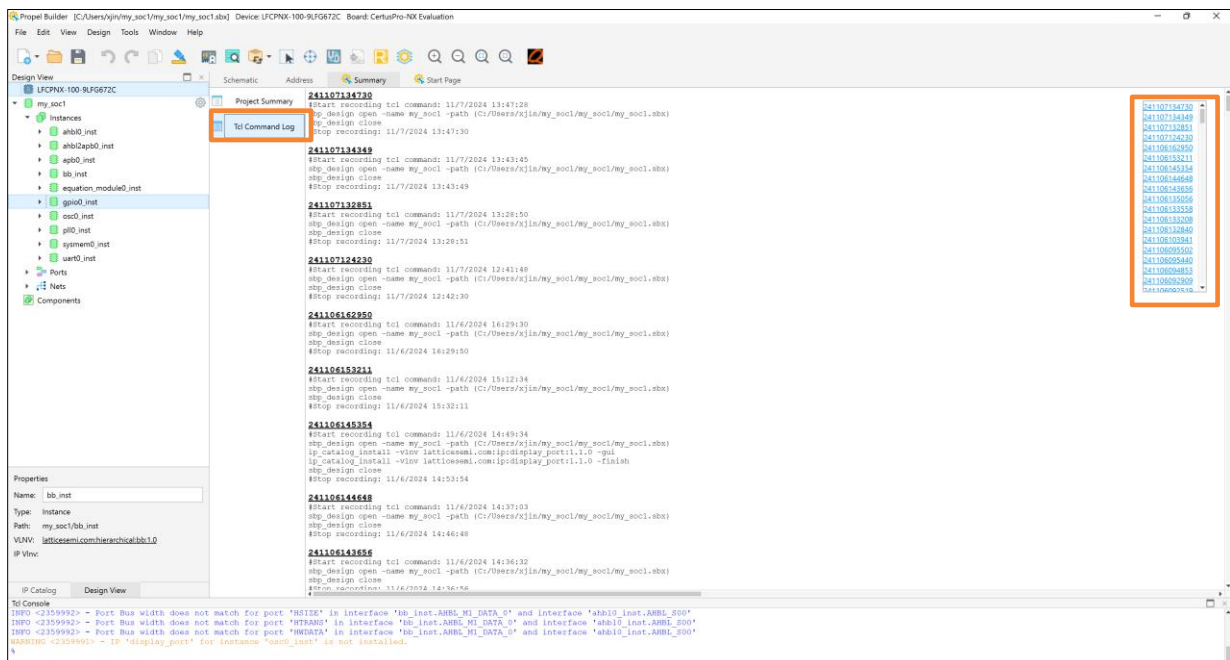

Figure 2.16. SoC Project Summary – Tcl Command Log
13. Click **Tcl Command Log** in **Summary** (Figure 2.16) to see all history Tcl command of this SoC project.